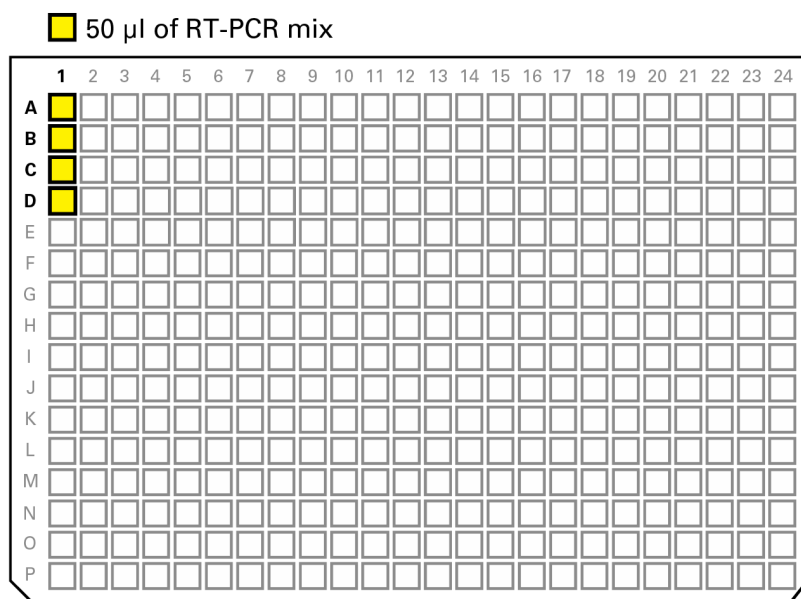

Figure 37. Setting up the source plate for dispensing RT-PCR mix.
- Pipette 50 μ l of the RT-PCR reaction mix into wells A1, B1, C1, and D1 of a MSND 384-Well Source Plate, as shown in Figure 37.